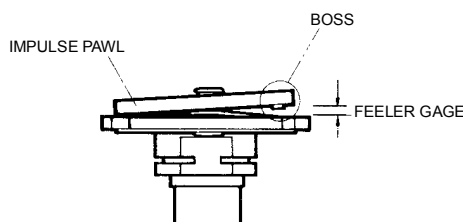

Figure 8.3D
11. Maximum clearance for pawls with one boss is 0.150 inch. Maximum clearance for pawls with two bosses is 0.150 inch for left-hand rotation couplings and 0.140 inch for right-hand rotation impulse couplings. If the feeler gage can pass between the full width of the boss and the pawl plate, replace the impulse coupling (5). See Figure 8.3D. For coupling rotation, see magneto data plate.